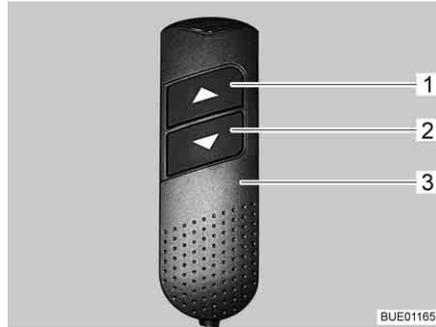

Fig. 78 Manual control unit
- On the manual control unit (Fig. 78,3) press both arrow keys (Fig. 78,1 and 2) simultaneously and keep them pressed until the pull-down bed has moved fully up or down and there is an audible beep tone.
- On the manual control unit (Fig. 78,3), press the bottom arrow key (Fig. 78,2) and keep it pressed until the pull-down bed has moved down into its end position.
- On the manual control unit (Fig. 78,3), press the top arrow key (Fig. 78,1) and keep it pressed until the pull-down bed has moved up into its end position.
- After resetting, use the arrow key (Fig. 78,1 or 2) to move the pull-down bed in the opposite direction as far as the end position.